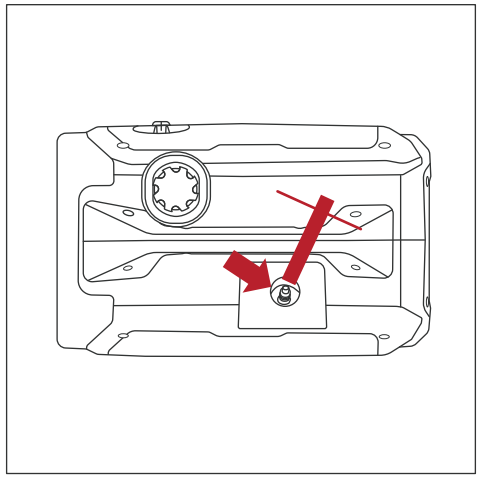

Fig.25
- Using the spark plug socket wrench provided, remove the spark plug from the cylinder head (see **Fig.25**).